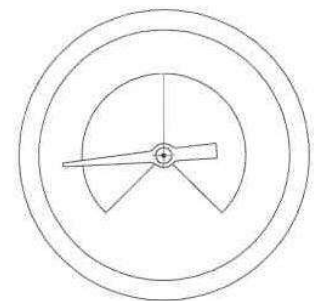

Figure 4-1
- This gauge shows operating and unsafe pressure ranges. See Figure 4-1.